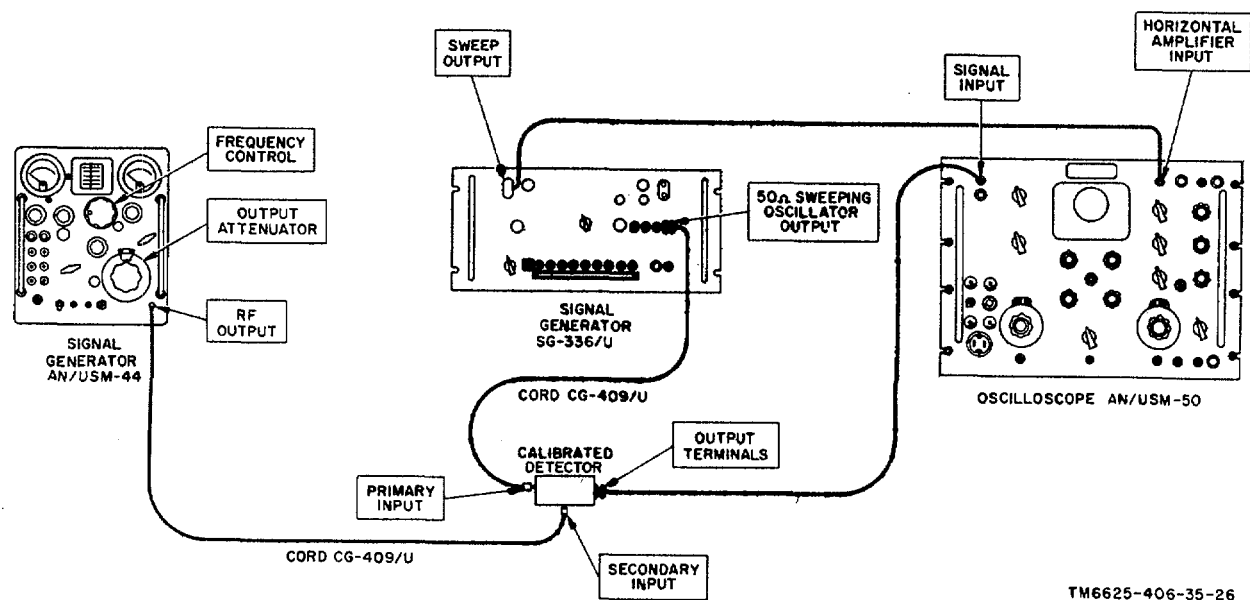

Figure 21. Center frequency and sweep test connections.
- (11) Repeat the procedures given in (3) through (10) above; reset the adjustments as necessary. The center frequencies on the two bands must be 30 mc and 60 mc respectively, and the sweep width on both bands must be a minimum of 20 mc.
- (12) Set the CENTER FREQUENCY switch to 30 MC, the SWEEP switch to NAR., and the output frequency of the cw signal generator to 30 mc. Set the FINE TUNE control first to its maximum counterclockwise setting, then to its maximum clockwise setting. At each setting of the control, tune the cw signal generator to center the marker along the oscilloscope trace, and record the center frequency. The center frequency should be variable over the center 50 percent of the 30-mc band (25 to 35).
- (13) Set the CENTER FREQUENCY switch to 60 MC, and the output frequency of the cw signal generator to 60'mc. Check the operation of the FINE TUNE control as described in (12) above. The center frequency on the 60-mc band should be variable 55 to 65 mc.
*b. Frequency Linearity Adjustment* (fig. 21). Adjust the frequency linearity of the sweeping oscillator output as follows:
- (1) Set the CENTER FREQUENCY switch to 30 MC, and the SWEEP switch to WIDE. Set the output frequency of the cw signal generator to 30 mc.
- (2) Adjust the trace length on the oscilloscope to provide a convenient total horizontal deflection between
(fig. 21)
(1) Oscilloscope AN/USM-50.
(2) Signal Generator AN/USM-44.
(3) Calibrated detector.
- b. Test Connections and Conditions. Connect the test equipment as shown in figure 21.